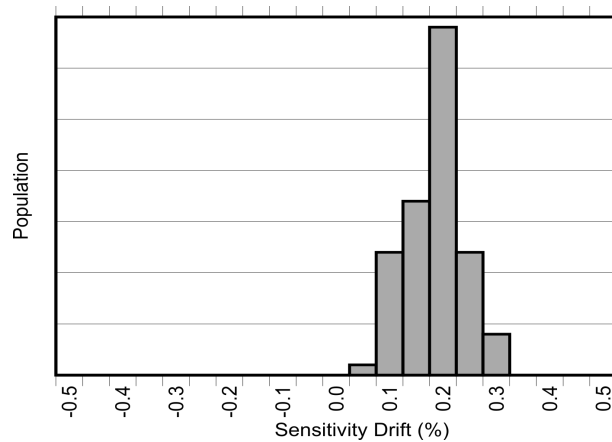
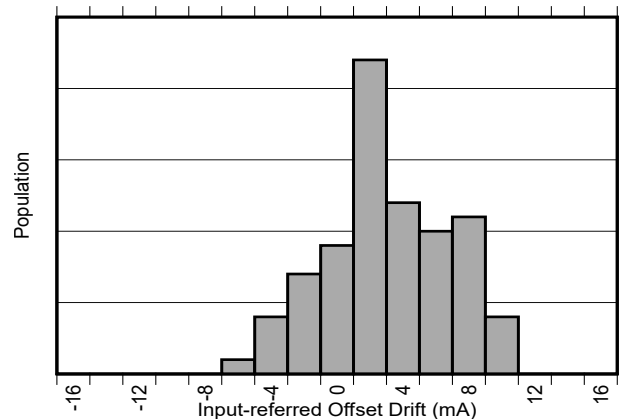

Figure 8-2. Sensitivity Error Drift After AEC-Q100 High Temperature Operating Life Stress Test
Figure 8-3. Input-Referred Offset Drift After AEC-Q100 High Temperature Operating Life Stress Test
In addition to large thermal drift, typical magnetic current sensors suffer an additional 2% to 3% drift in sensitivity due to aging over the lifetime of the device. The same proprietary compensation techniques used in the TMCS1126-Q1 to reduce temperature drift are also used to greatly reduce lifetime drift due to aging from stress and environmental conditions especially at high operating temperatures. As shown in the Electrical Characteristics, the TMCS1126-Q1 has industry leading lifetime sensitivity drift realized after Highly Accelerated Stress Tests (HAST) at 130°C and 85% relative humidity (RH) during standard three lot AEC-Q100 qualifications. Low sensitivity and offset drift within the bounds specified in the Electrical Characteristics are also observed after 1000 hour, 125°C high temperature operating life stress tests are performed as prescribed by AEC-Q100 qualifications. These tests mimic typical device lifetime operation, and show device performance variation due to aging is vastly improved compared with typical magnetic current sensors. Figure 8-2 and Figure 8-3 show the sensitivity and offset drift after a 1000 hour, 125°C high temperature operating life stress test as specified by AEC-Q100. Device operational performance varies over the lifetime of the device. This test mimics typical device lifetime operations and shows the likelihood of the device vastly improving performance compared to typical magnetic sensors.